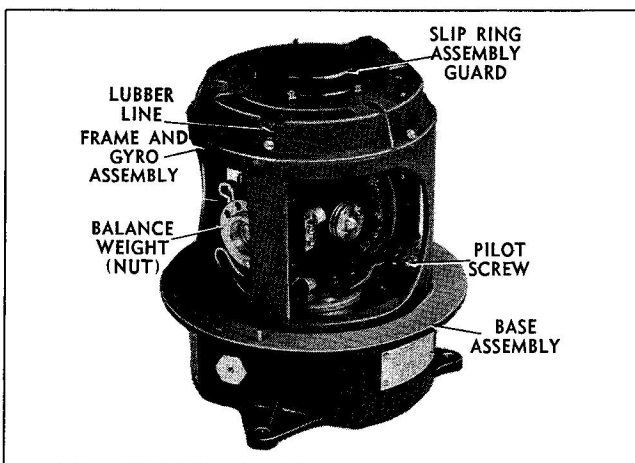

Figure 2-2 Directional Gyro Control With Cover Removed
(b) **Removing the vertical ring and gyro assembly.** Loosen the lock screw on the balance weight (nut) and remove the weight. (See figure 2-2).
(1) **Unscrew three small fillister-head screws and lockwashers and remove the slip ring assembly guard.** (See figure 2-2).
(c) Removing The Frame And Synchro Assembly From The Base Assembly. Remove three special pilot screws and lockwashers which secure the frame and synchro assembly to the base assembly. (See figure 2-2.)